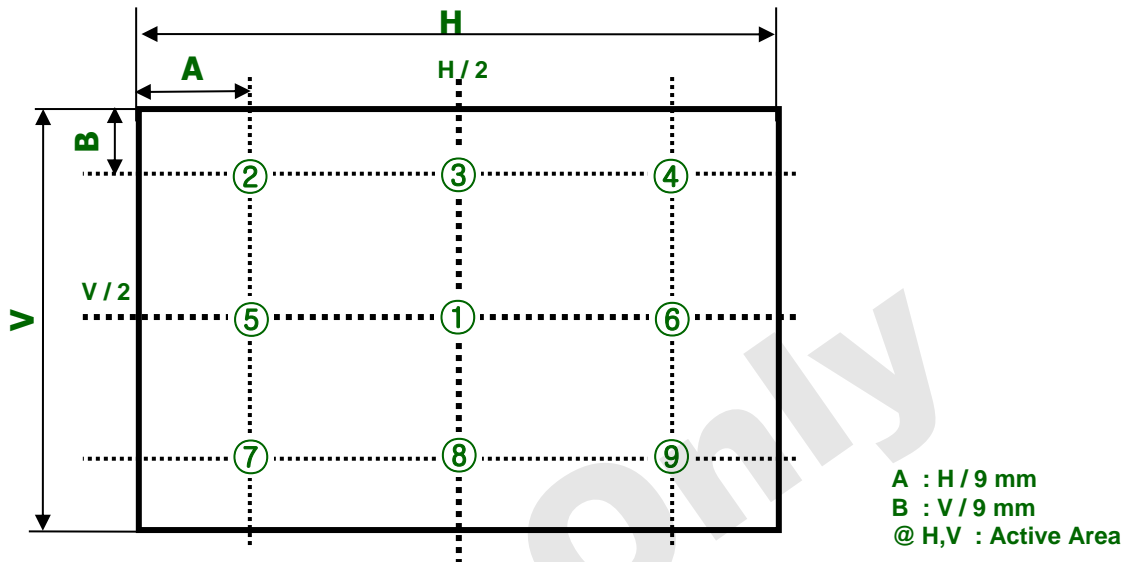

FIG. 2 9 Points for Luminance Measure
2. Surface luminance is determined after the unit has been 'ON' and 1 Hour after lighting the backlight in a dark environment at  $25 \pm 2^\circ\text{C}$ . Surface luminance is the luminance value at center 1-point across the LCD surface 50cm from the surface with all pixels displaying white. For more information see the FIG. 2